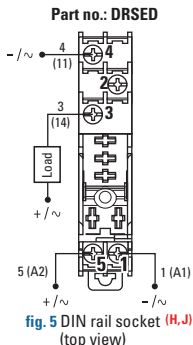

fig. 5 DIN rail socket (H,J)
- ◆ Wire the socket DRSED to the input/output side (fig. 5). 24 AWG minimum, 2 x 14 AWG (stranded/solid) maximum, choose wire gauge according to load current. Maximum recommended terminal screw torque 5.3-8.85 in lbs (0.60-1.2 N m) on input/output terminations.